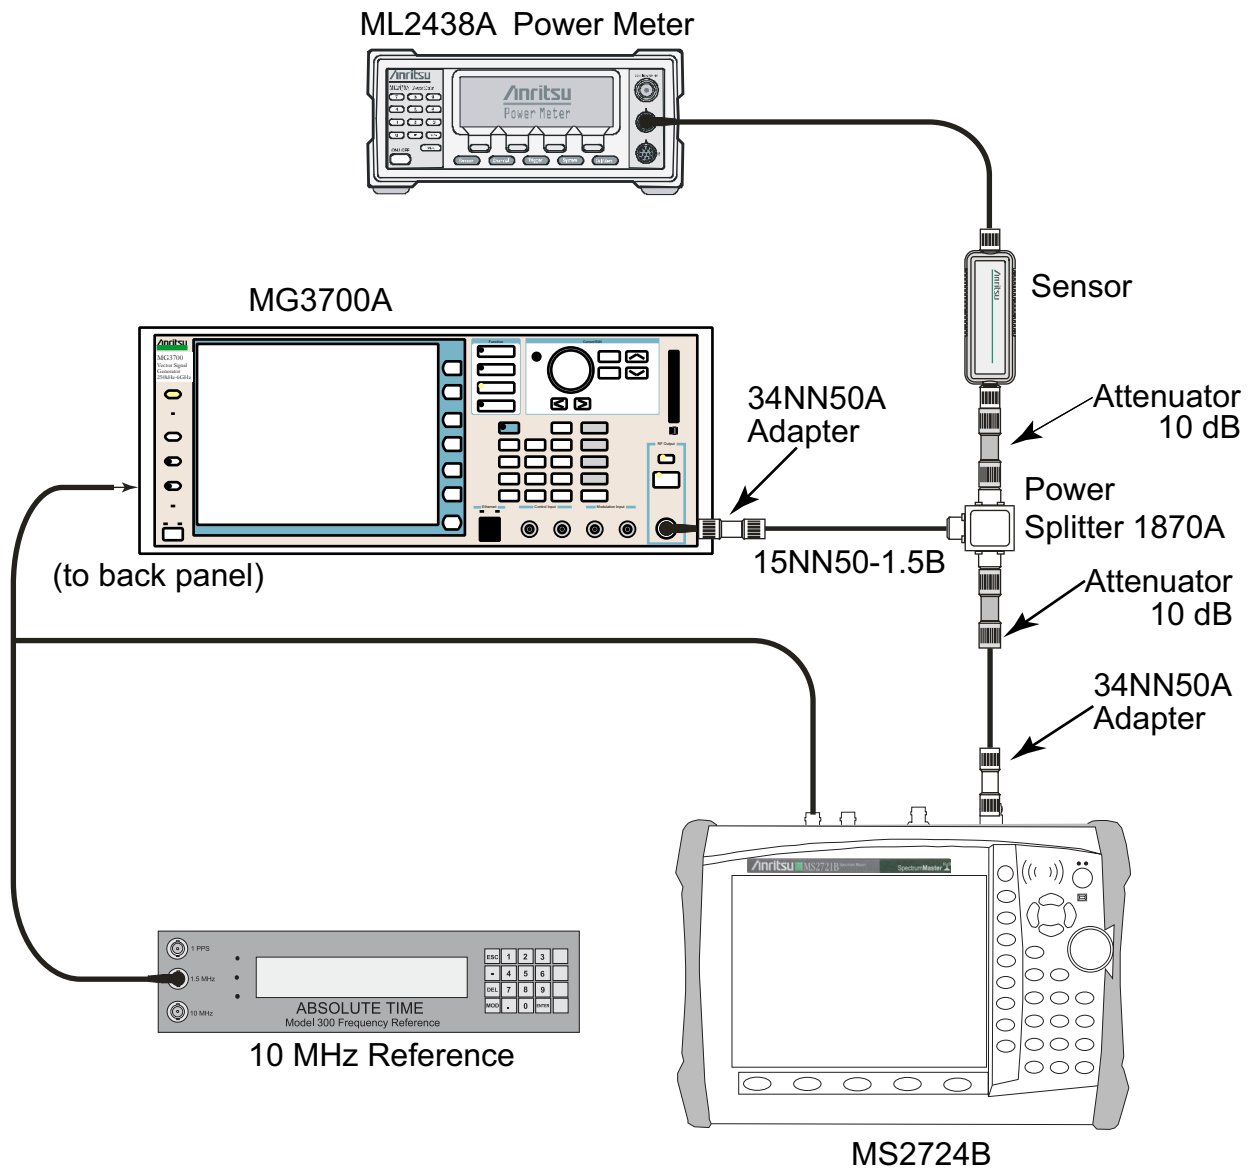

Figure 2-22. WCDMA Occupied Bandwidth – Test Setup
3. Connect the MG3700A, splitter, attenuator, power meter, and sensor as shown in Figure 2-22, “WCDMA Occupied Bandwidth – Test Setup” on page 2-51.
4. Press the **On/Off** key to turn on the MS2723B or MS2724B and wait until the measurement display appears. Then press the **Shift** key then press the **Mode** (9) key to activate the mode selection menu.
6. Press the **Shift** key, the **Preset** (1) key, and then the **Preset** soft key.
4. Press the **On/Off** key to turn on the MS2723B or MS2724B and wait until the measurement display appears. Then press the **Shift** key, and then press the **Mode** (9) key to activate the mode selection menu.
3. Connect the MG3700A, splitter, attenuator, power meter, and sensor according to Figure 2-22, “WCDMA Occupied Bandwidth – Test Setup” on page 2-51.
4. Press the **On/Off** key to turn on the MS2723B or MS2724B, and wait until the measurement display appears. Then press the **Shift** key, and then press the **Mode** (9) key to activate the mode selection menu.